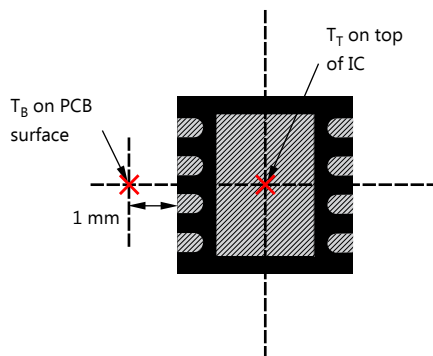

Figure 24. Measuring Points for T_T and T_B
- T_B is the PCB temperature measured 1 mm away from the device package on the PCB surface (as shown in Figure 24).